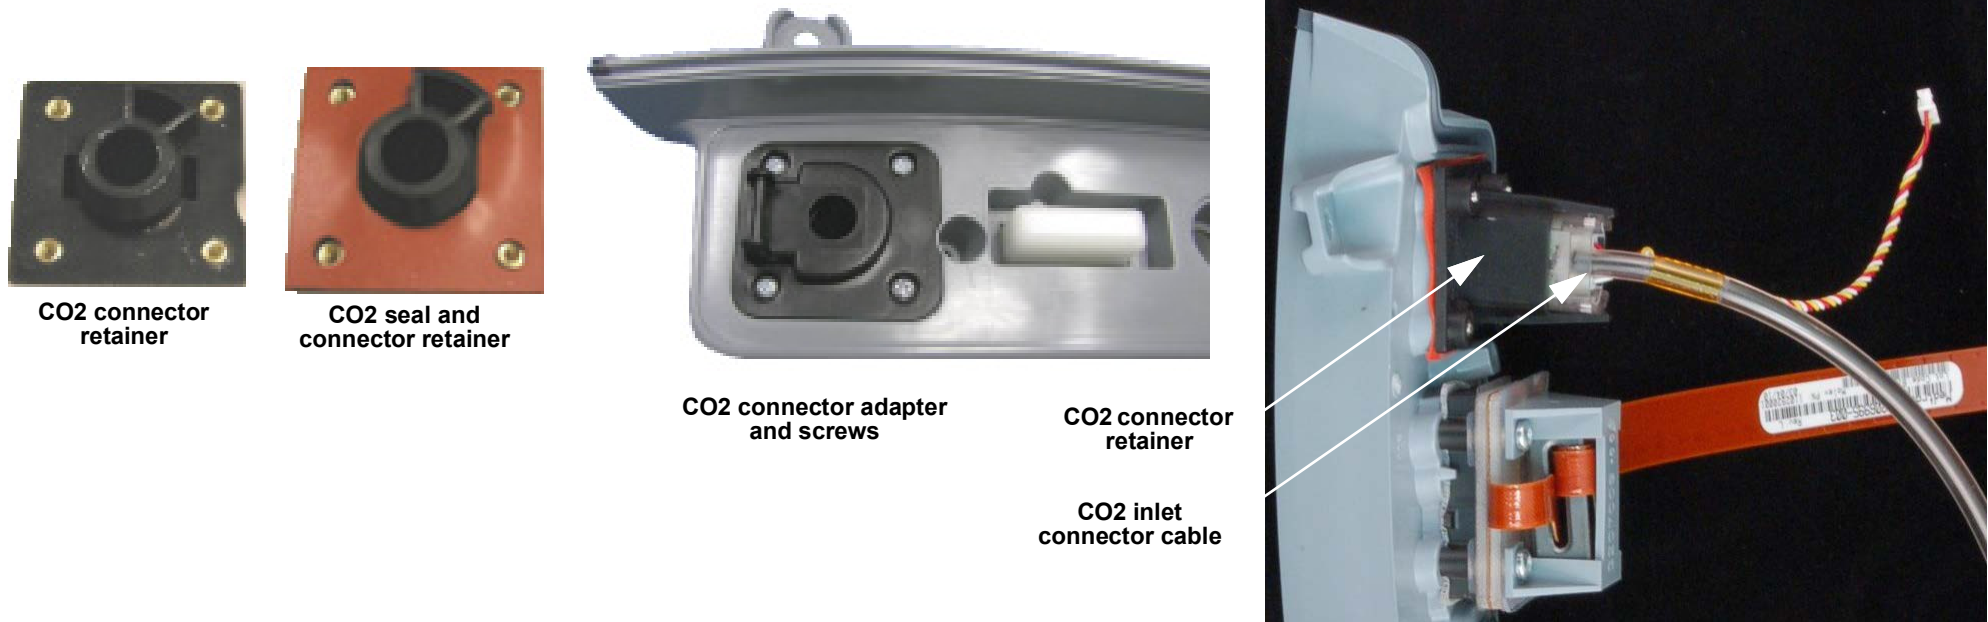

Figure 8.117—CO2 connector parts
6. Disengage the CO2 inlet connector cable from the CO2 connector retainer by spreading the arms of the retainer and sliding out the CO2 inlet connector body (see Figure 8.117 on p. 351). Discard the connector retainer clip.